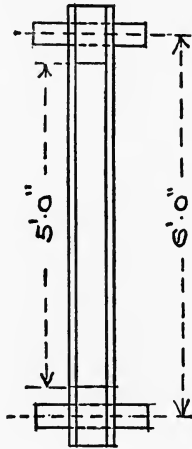

Fig. 4.
8. Fig. 4 illustrates a strut made up of two flat strips $3'' \times 1''$ riveted at their ends to distance pieces holding the strips parallel to one another. Pins pass through these distance pieces in the manner shewn. If these pins are pushed towards one another, the pins remaining parallel and vertically above one another, find what is the greatest load the strut will support without buckling.